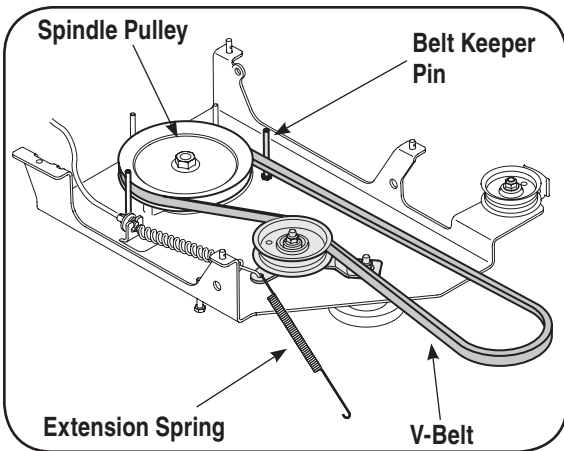

Figure 20
5. Route the belt around the spindle pulley, inside of the belt keepers and to the inside of the idler pulley. The spring will connect to the Idler bracket but you may install this once the undercarriage is mounted. Otherwise it could fall off or get in the way in the following steps. If you wish to connect this later, retain the spring for later installation. See the Figure 20 illustration on the following page.